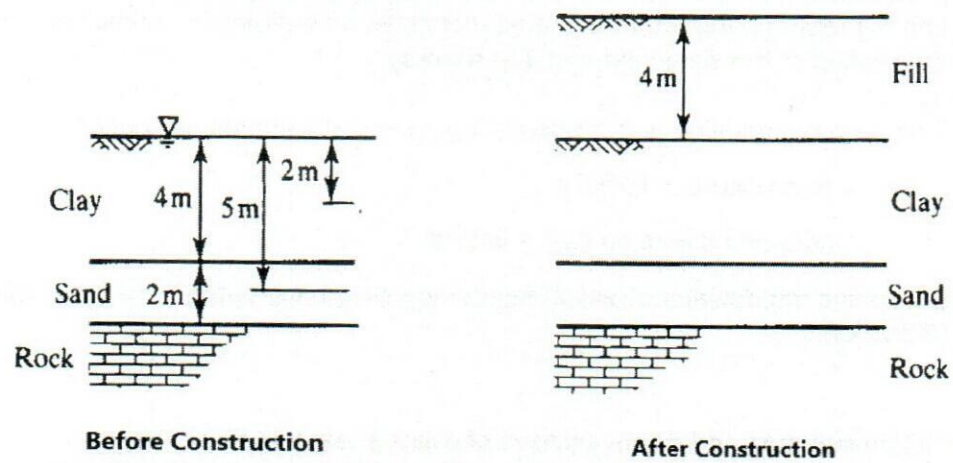

Figure 2
- a) The soil profile in **Figure 2** consists of clay and sand with same saturated unit weights of 20 kN/m^3 . The water table is at ground level. A significantly wide embankment 4 m high is constructed from a fill with a unit weight of 15 kN/m^3 . Determine the total and effective vertical stresses at the center of the clay and at the center of the sand,